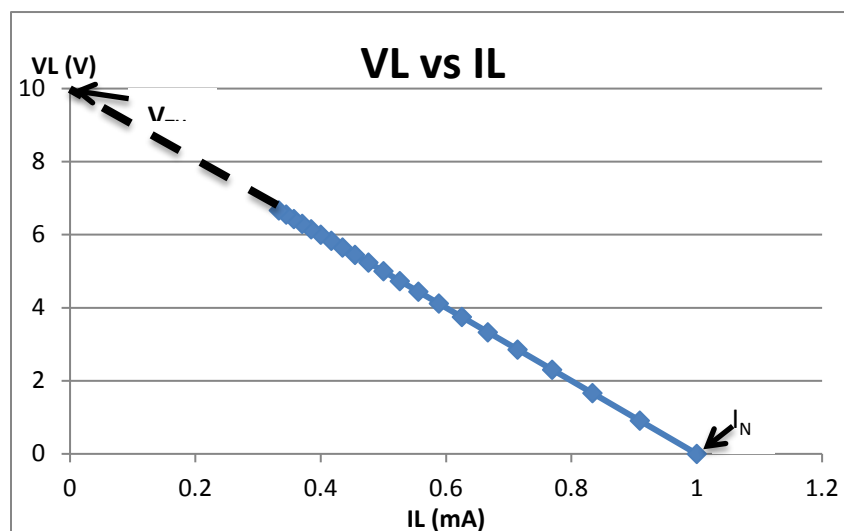

Figure 7-4: V_{LOAD} vs I_{LOAD} ($V_{TH} = 10V$, $I_N = 1\text{ mA}$, $R_{th} = 10\text{ k}\Omega$)
2.3.1 Use your graph to estimate the values of V_{TH} and I_N , then calculate the percent error of these values compared to the predicted values found in part 2.1. Organize your results in a table. Your graph should be similar to Figure 7-4, note this is different data.